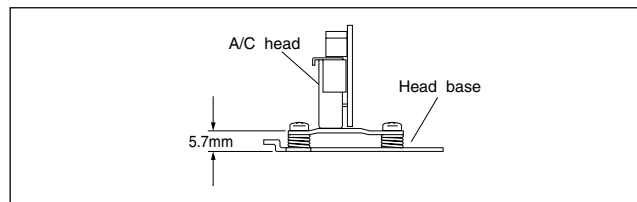

Fig.2-2-4c
- (1) Temporarily set the A/C head height as indicated in Fig. 2-2-4c.